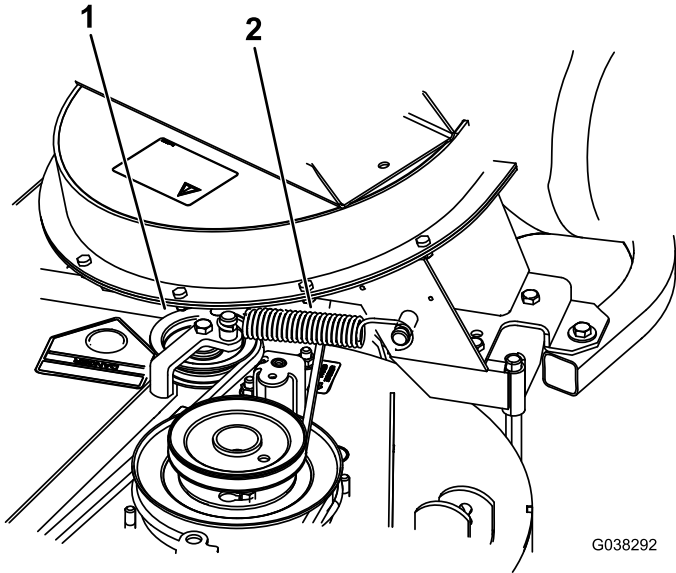

**Figure 58**
4. Pull back on the spring-loaded idler pulley to relieve the belt tension (Figure 58).
6. Install the new belt around the blower pulley (Figure 58).